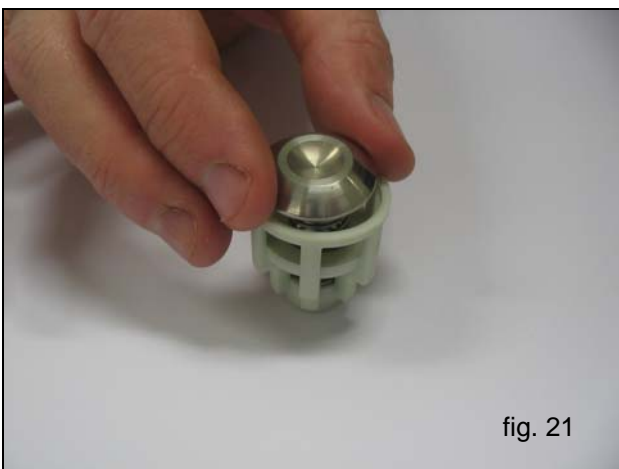

fig. 21
1. During the assembly of the suction and delivery valve units (fig. 21 - fig. 22) do not invert the suction springs with the previously disassembled delivery springs: